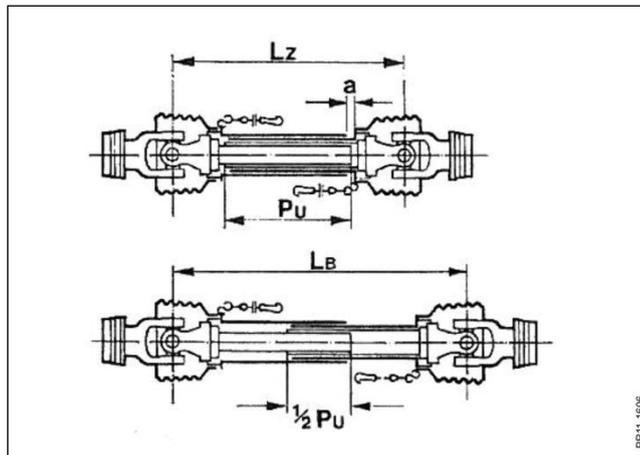

Fig. 2.9
- Fig. 2.9** Adjust the length of the PTO shaft so that it:
IMPORTANT: The specified values for overlapping on the tubes of the PTO shaft must be observed as shown on figure. 2-9.